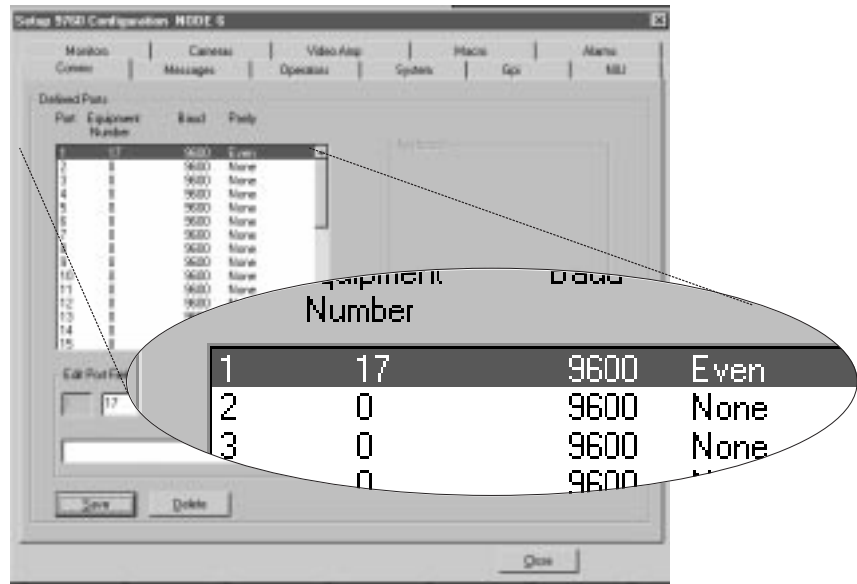

Figure 13. Configuring the COMMS file for VCRC-P Operation
10. Define operator access, save the GPI file, return to the MGR main menu screen and press the tab to bring up the COMMS file (.SCP file). Refer to Figure 13.